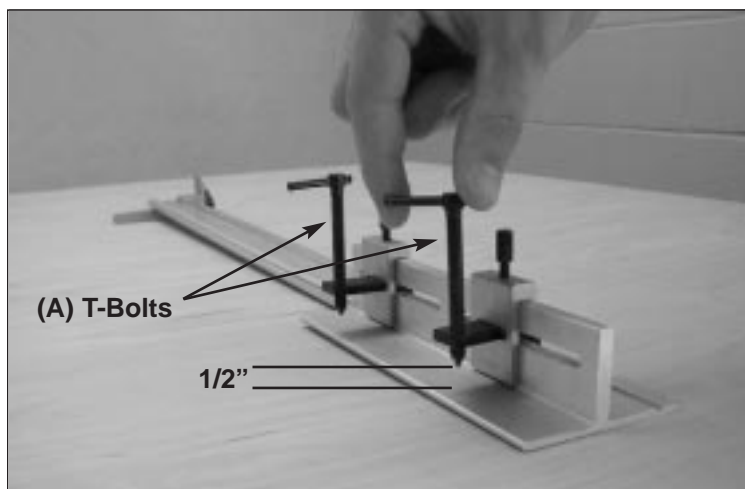

Fig. 2
2 Loosen the T-bolts (A) so that there is roughly 1/2 inch clearance between the Rip Master base and the points of the T- Bolts (Fig. 2) **Do not remove the T-bolts completely.**